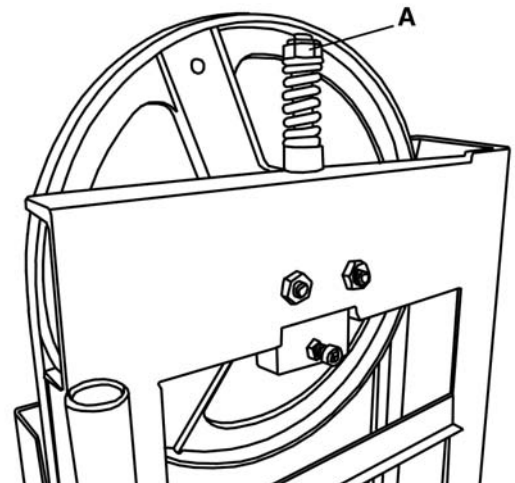
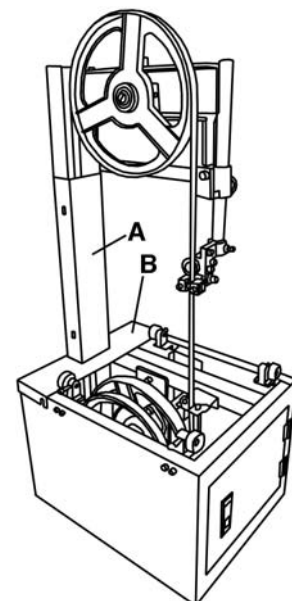

FIGURE 18
FIGURE 20
To tension blade, remove the upper wheel cover and then turn the tension hex. nut (A) Fig.18 clockwise to increase blade tension or counterclockwise to decrease the blade tension. Proper tension is obtained once there is a 1/4" deflection in the blade when moderate finger pressure is applied.
To gain access to the blade and to remove it, the upper wheel cover, entire table assembly, V-Belt, blade guard and both stainless steel guards (A & B) Fig.20 must be removed from the Meat Bandsaw. Move the blade guide blocks and guide plates away from the blade so it is easier to remove and/or install the blade. Release the blade tension by turning the hex. nut (A) Fig.18 counterclockwise.